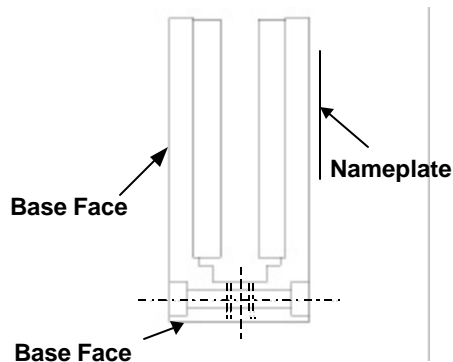

Figure 2
1. Place the magnet track on the installation base face (there are two faces). (Refer to Figure 2). Be careful with your hands. It is easy to get caught by the base face of the machine base.
Check that the space between the moving coil resin and the magnet track magnet in a specified size. (Refer to Figure 2)